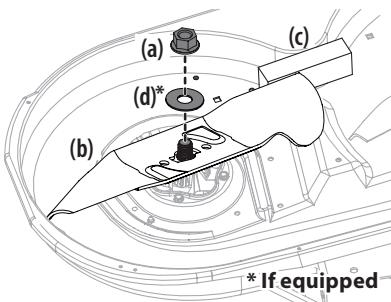

Figure 43
2. Use a 15/16" wrench to hold the hex nut on top of the spindle assembly when loosening the hex nut (a) and washer (d)\* securing the blade (b). A block of wood (c) may be placed between the deck housing and the cutting edge of the blade (b) to help in breaking loose the hex nut (a) and washer (d)\*. See Figure 43.
3. When re-installing the blades, be sure of the following (see Figure 43):